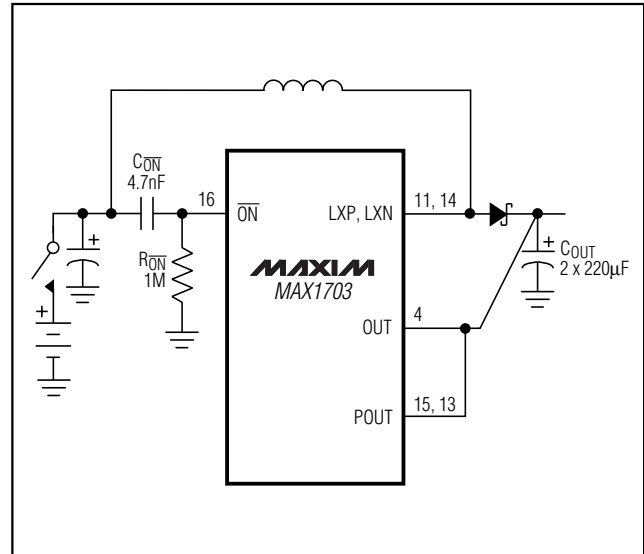

Figure 7. Connecting  $C_{\overline{ON}}$  and  $R_{\overline{ON}}$  when Switch or Battery-Contact Bounce is Anticipated
- 1) Connect a capacitor ( $C_{\overline{ON}}$ ) from  $\overline{ON}$  to  $V_{IN}$  and a 1M $\Omega$  resistor ( $R_{\overline{ON}}$ ) from  $\overline{ON}$  to GND, as shown in Figure 7. This resistor-capacitor network differentiates fast input edges at  $V_{IN}$  and momentarily holds the IC off until  $V_{IN}$  settles. The appropriate value of  $C_{\overline{ON}}$  is  $10^{-5}$  times the total output filter capacitance ( $C_{OUT}$ ), so a  $C_{OUT}$  of 440 $\mu$ F results in  $C_{\overline{ON}} = 4.7$ nF.